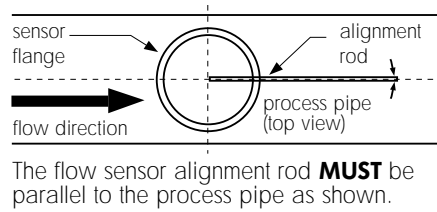

Fig. 6
D. Place the alignment rod in the alignment hole on the sensor flange. Align the flange so rod is parallel to the process pipe. (Fig. 6)